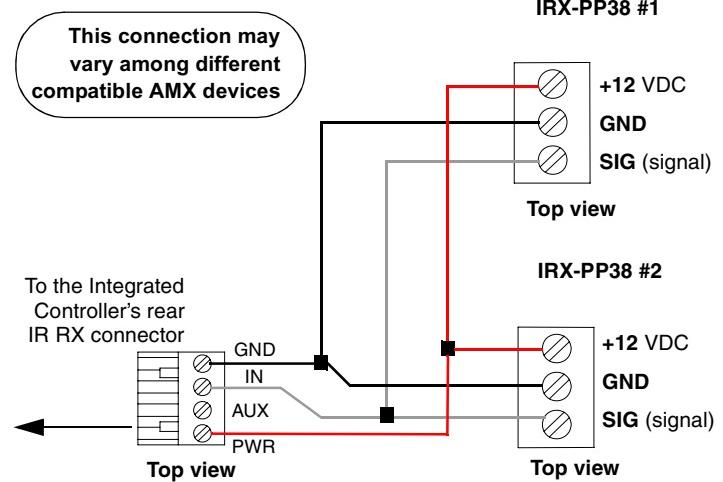

FIG. 2 Sample wiring diagram between NI Controller and multiple IRX sensors
The maximum wiring distance between the IRX and a target NI Controller (such as the NI-700 and NI-900) is **200 feet** (60.96 meters). FIG. 2 displays a sample wiring diagram which shows how you can wire a single Controller for communication to two separate IRX IR sensors.
2. Insert each wire into the appropriate opening on the IRX-PP38 connector according to the wiring diagrams and connector types described in FIG. 2.
4. Insert each wire into the appropriate opening on the NI's rear IR RX connector, according to the wiring diagrams and connector types described in FIG. 2.